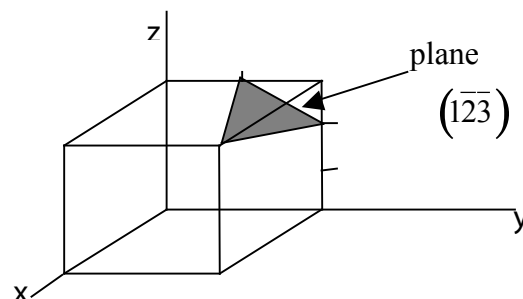

Figure 1.11: Sketching a plane in a cubic lattice
- Note that the choice of the origin is important when sketching a plane. In the example in Fig. 1.11, the origin is at the topmost right corner. Note also the way the edges are subdivided according to the corresponding indices before sketching the plane.